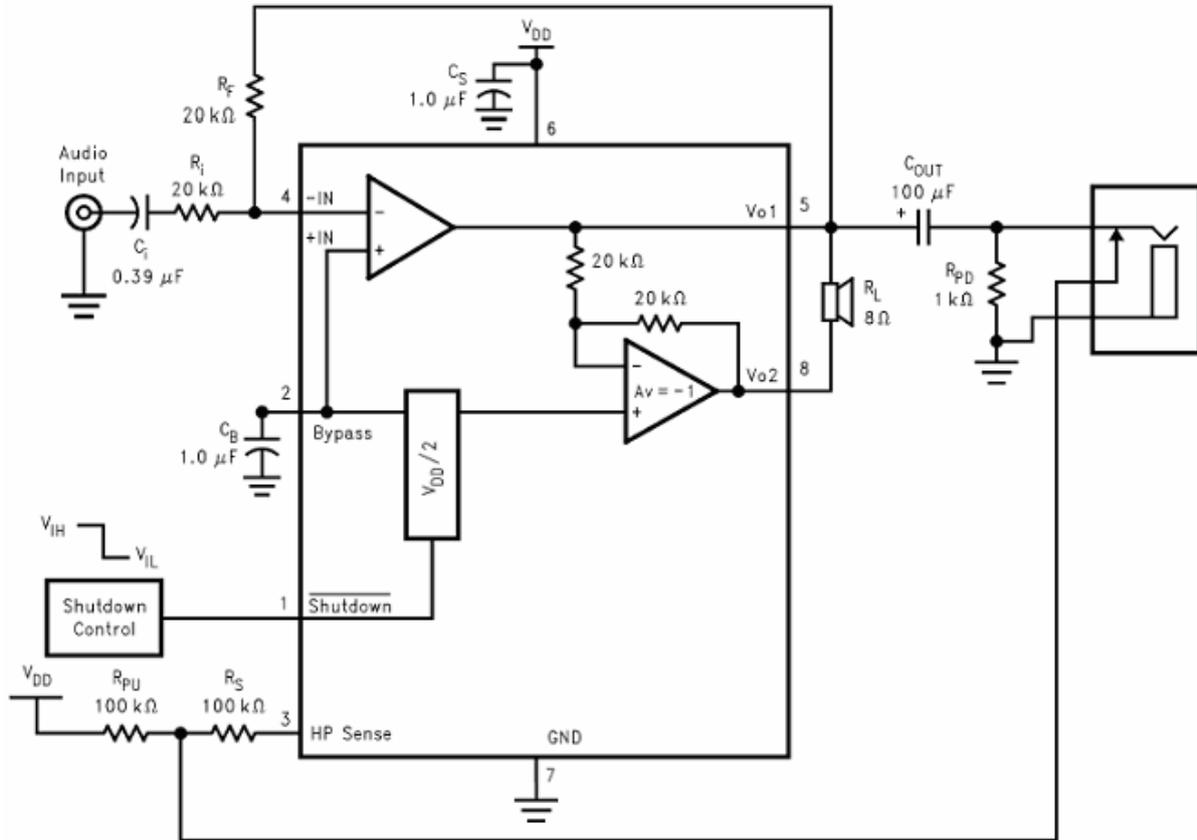

FIGURE 1. Typical Audio Amplifier Application Circuit
- PSRR at 217Hz, VDD = 5V (Fig. 1) 60dB(typ.)
The following specifications apply for the circuit shown in Figure 1 unless otherwise specified. Limits apply for TA = 25°C.
The following specifications apply for the circuit shown in Figure 1 unless otherwise specified. Limits apply for  $T_A = 25^\circ C$ .
**Note 10:** PSRR is a function of system gain. Specifications apply to the circuit in Figure 1 where  $A_V = 2$ . Higher system gains will reduce PSRR value by the amount of gain increase. A system gain of 10 represents a gain increase of 14dB. PSRR will be reduced by 14dB and applies to all operating voltages.
## External Components Description (Figure 1)
As shown in *Figure 1*, the EMA1001 has two operational amplifiers internally, A1 and A2, allowing for a few different amplifier configurations. A1's gain is externally configurable, while A2 is internally fixed in a unity-gain, inverting configuration. The closed-loop gain of A1 is set by selecting the ratio of  $R_f$  to  $R_2$ , while A2's gain is fixed by the two internal  $20k\Omega$  resistors. *Figure 1* shows that the output of A1 serves as the input to A2, which results in both amplifiers producing signals identical in magnitude, but out of phase by  $180^\circ$ . Hence, the differential gain for the IC is
To optimize device and system performance, proper selection of external components is critical. While the EMA1001 can support a wide range of external component combinations, careful selection of component values can maximize overall system quality. The EMA1001 is unity-gain stable, which gives the designer maximum system flexibility. The EMA1001 should be used in low gain configurations to minimize THD+N values, and maximize the signal to noise ratio. Low gain configurations require large input signals to obtain a given output power. Input signals equal to or greater than  $1\text{V}_{rms}$  are available from sources such as audio codecs. Please refer to the section, **Audio Power Amplifier Design**, for a more complete explanation of proper gain selection. Besides gain, one of the major considerations is the closed loop bandwidth of the amplifier. The bandwidth is primarily determined by the choice of external components shown in *Figure 1*. The input coupling capacitor,  $C_2$ , forms a first order high pass filter, which limits low frequency response. This value should be chosen based on needed frequency response for a few distinct reasons.